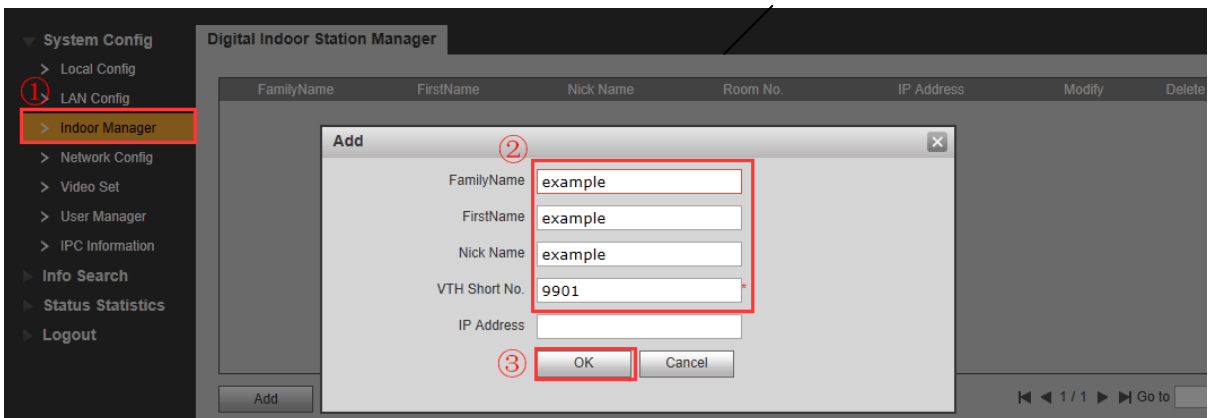

Figure 2-5
c) Now you can add digital VTH. System has added room 9901 by default. See Figure 2-5.